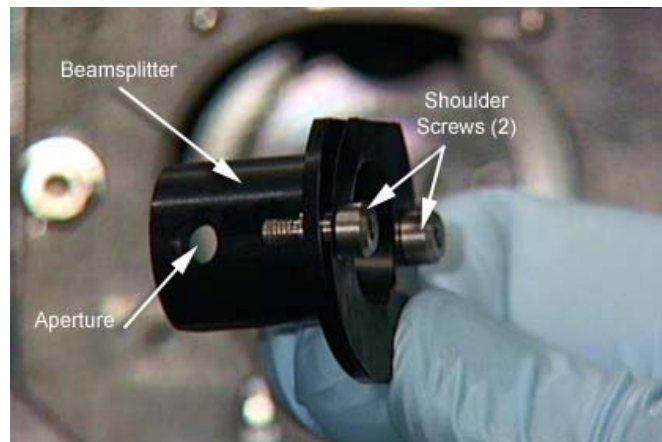

Figure 6 - Beamsplitter with Aperture
1. Place the mask onto the beamsplitter and set the shoulder screws in place (Figure 6).